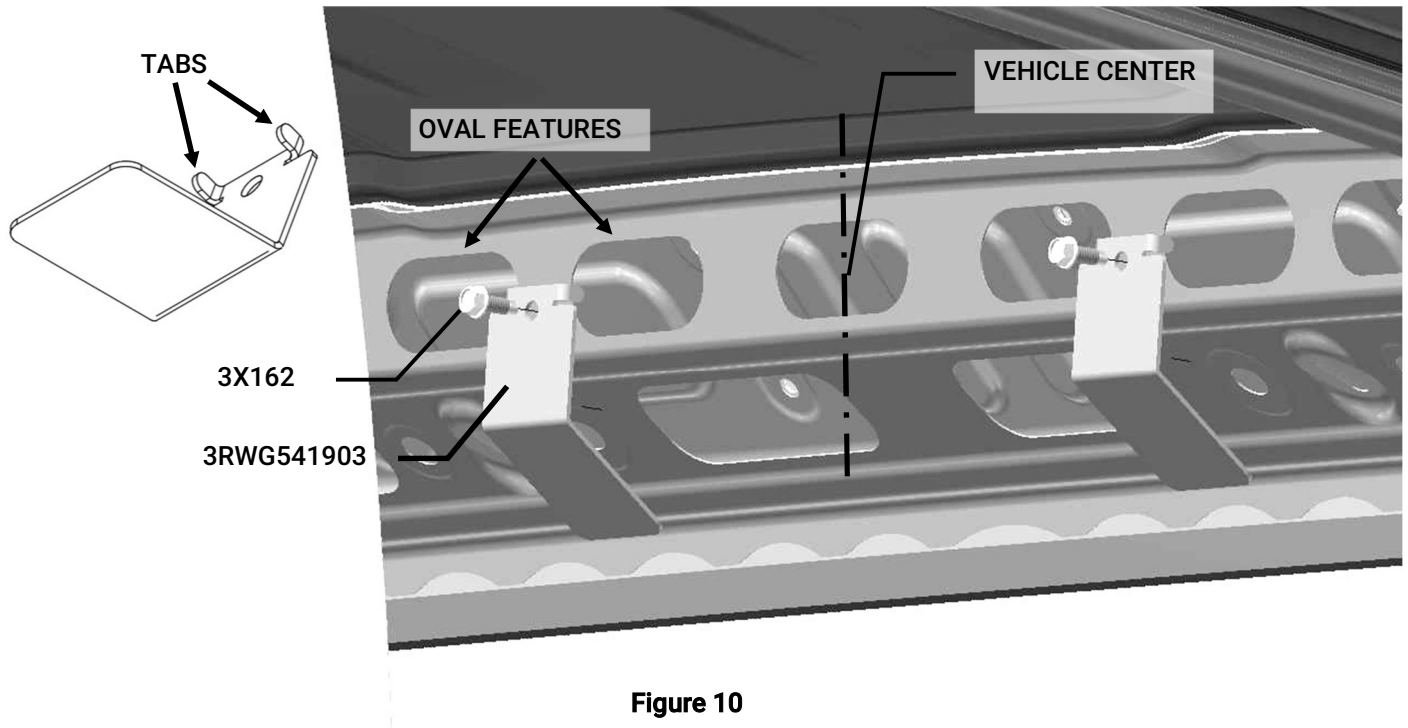

Figure 10
- J. Locate (2) upper headliner brackets [3RWG541903] by centering bracket tabs with surface between oval features and fasten with (2) self-drilling screws [3X162] (Fig. 10)